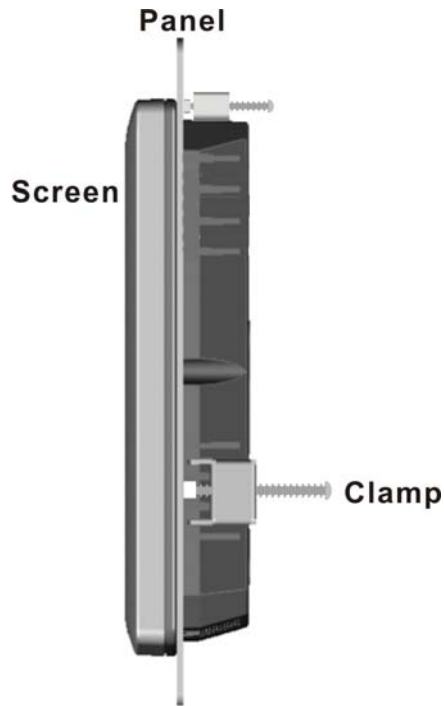

Figure 4-7: Tighten the Panel Mounting Clamp Screws
- Step 5:** Tighten the screws that pass through the panel mounting clamps until the plastic caps at the front of all the screws are firmly secured to the panel (**Figure 4-7**).